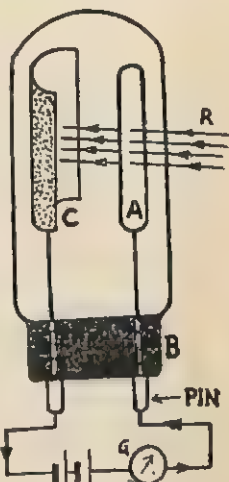

Fig. 13.1. Photo cell (in circuit).
(2) **Photoelectric Cell.** It is an evacuated glass tube containing inside it a metal anode 'A' and a cathode 'C' as shown in Fig. 13.1. The anode and cathode are connected to two base pins through the base 'B' of the tube. The cathode 'C' is a concave surface coated with a photo-sensitive material like the oxides of calcium, cesium or rubidium. The whole glass tube is blackened except for a small portion in front of the cathode.
**Procedure.** (1) Make circuit connections as shown in Fig. 13.1.
(2) Allow the light to fall on the "photo-sensitive" surface of the cathode. Observe a deflection in the galvanometer. This deflection is due to electric current constituted by the 'photo electrons' emitted from the cathode surface.